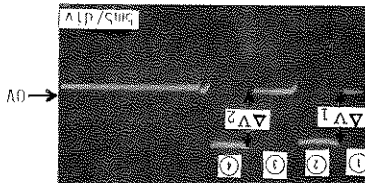
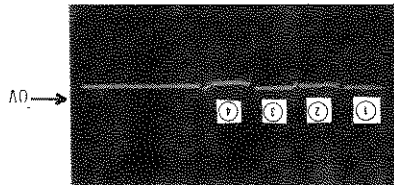

Figure 5-3. Waveforms before Adjustment.
Figure 5-4. Waveforms after Adjustments with A4ADJ1 and A4ADJ2.
- f. Adjust A4ADJ1 (A4R5) to flatten and balance square waves ① and ② as shown Figure 5-4 from the waveforms as shown in Figure 5-3.
- h. In like manner, adjust A4ADJ2 (A4R55) for square waves ③ and ④. The balances ( $\Delta V1, \Delta V2$ ) should be within  $\pm 100mV$  as shown in Figure 5-4.